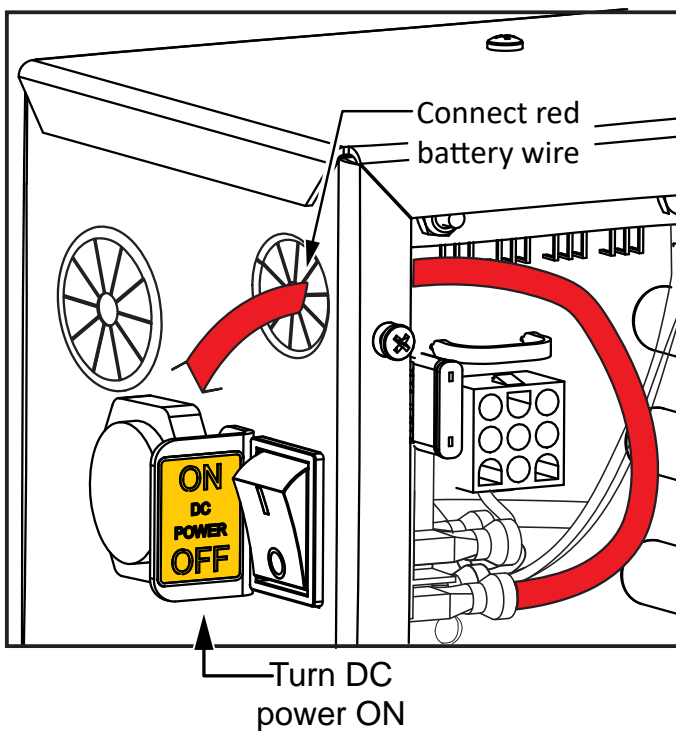

Figure 15. Connect Battery and Power On
1. Connect the red battery wire to its spade terminal. Figure 15.